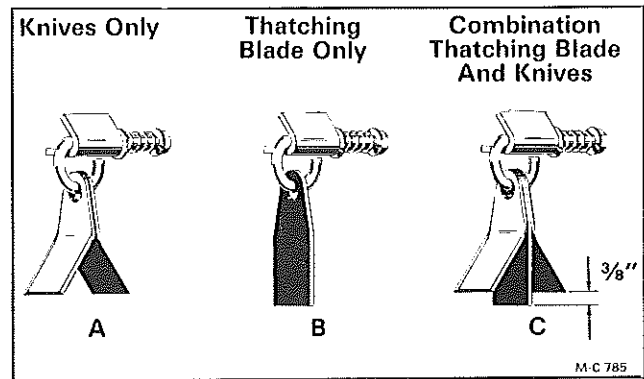

Figure 15
1. The Lawn Genie is an excellent machine for overseeding. With both the mowing knives and thatching blades installed on the rotor, it will do an excellent job of preparing an existing lawn for overseeding. The thatching blades hang down  $\frac{3}{8}$ " lower than the mowing knives (See "C" in Figure 15) and will remove the mat of dead grass and give you a seed bed in the existing turf. You will be mowing your grass very short while you are preparing a seed bed.
2. Only the thatching blades alone are used for this operation (See "B" in Figure 15).